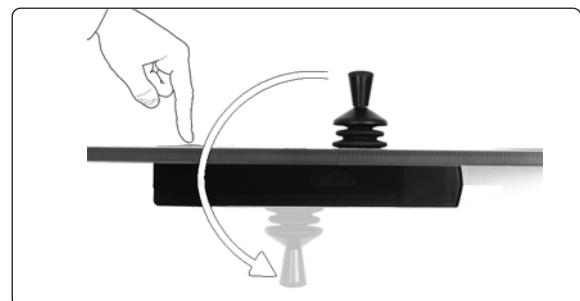

Figure 3. The panel can be reversed. Press the button at the front and turn the panel forwards 180 degrees.
6. The panel can be turned through 180 degrees to produce a flat tabletop. See *Figure 3*.